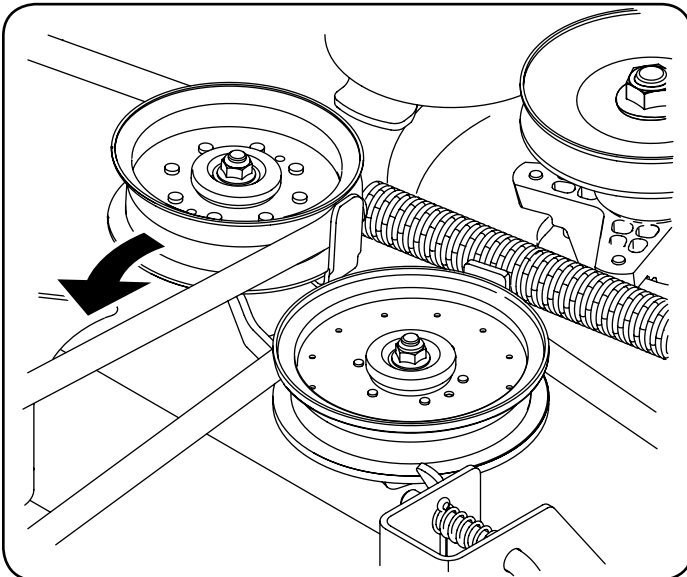

Figure 34
- b. Working from the middle of the tractor, pivot the idler bracket and movable idler pulley rearward away from the backside of the 'V' belt just far enough to lift the belt up and over the idler pulley. See Figure 34.